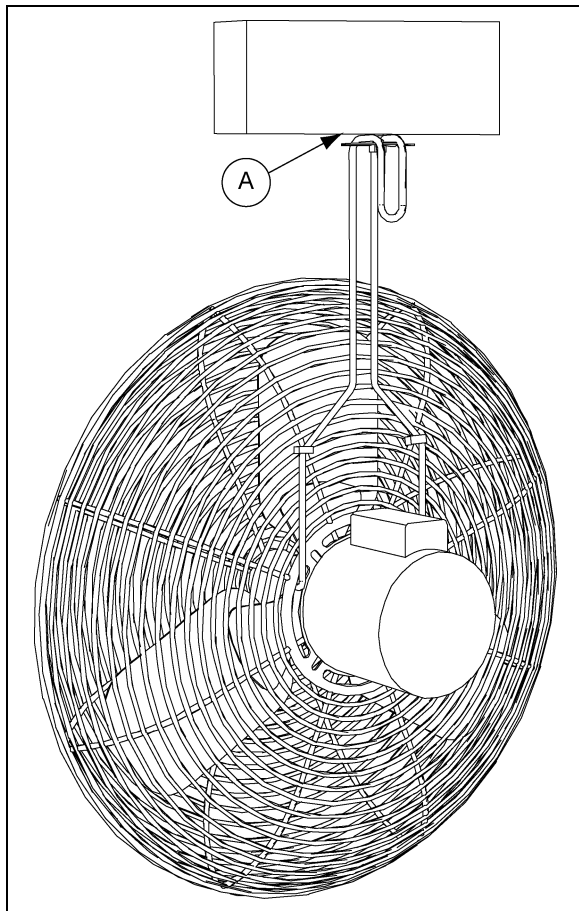

Figure 3B
2. *Ceiling/underside of rafter* - Install fan, placing top of fan hanger flush with bottom side ceiling/rafter. Place fan mount washer on the underneath side of the top end. Install lag screw/bolt (not included). *(See Figure 3B.)*